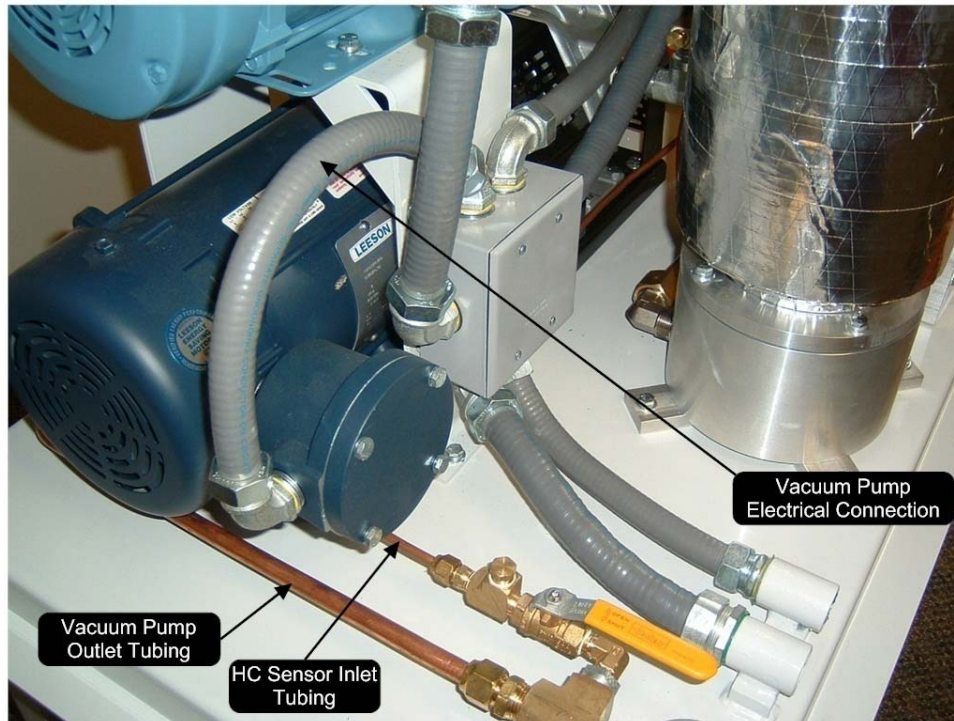

Figure 27: Vacuum pump electrical connection / vacuum pump outlet tubing / HC sensor inlet tubing
- See Figures 27 and 28.
9. Remove (4) $\frac{1}{4}$ " x 1- $\frac{1}{2}$ " mounting bolts from the vacuum pump motor assembly base plate.
- Keep the (4) bolts for reuse or replace with new.
- Completely remove the vacuum pump ½" and ¼" inlet 45° flare tubing and all pipe fittings connected to the vacuum pump. See Figure 27.